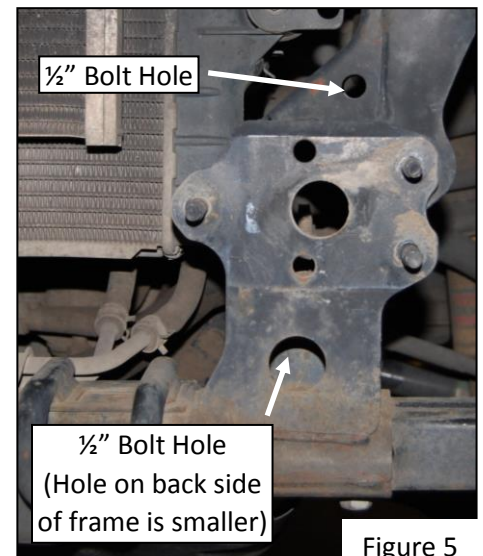

Figure 5
14. Before placing the bumper on the vehicle, check the frame holes to verify clearance for the $\frac{1}{2}$ " x 5" winch plate reinforcement hex bolts. There are 2 locations per side, one above, and one below the mounting studs as indicated in **Figure 5**. Using one of your $\frac{1}{2}$ " x 5" Hex Bolts, pass the bolt through the entire frame and out the back side at all 4 locations. If the bolt does not pass through, you will have to enlarge the holes slightly using a $\frac{1}{2}$ " drill bit. If you have to enlarge any holes, we suggest you paint the exposed raw metal edge of the hole to prevent rust development.